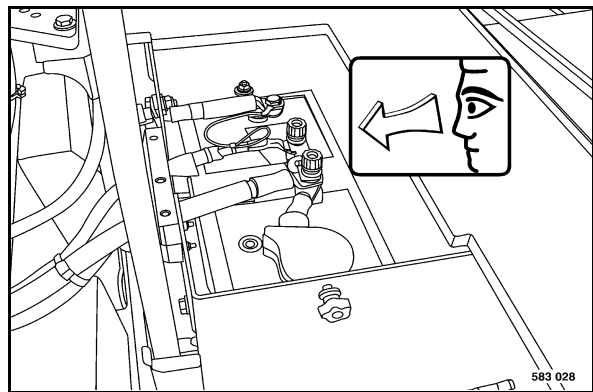

Fig. 143
- Remove the battery (Fig. 143) and clean the battery compartment.